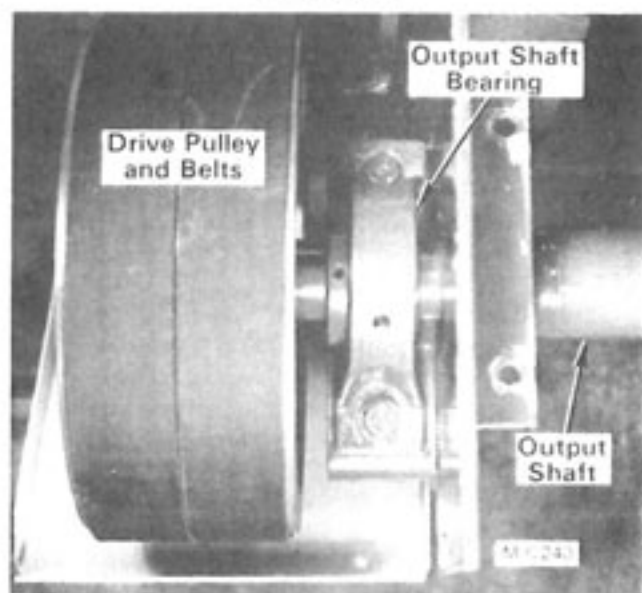

Figure 30 - Top View
3. Remove the top belt guard and adjust the output shaft bearing, Figure 30, as follows: